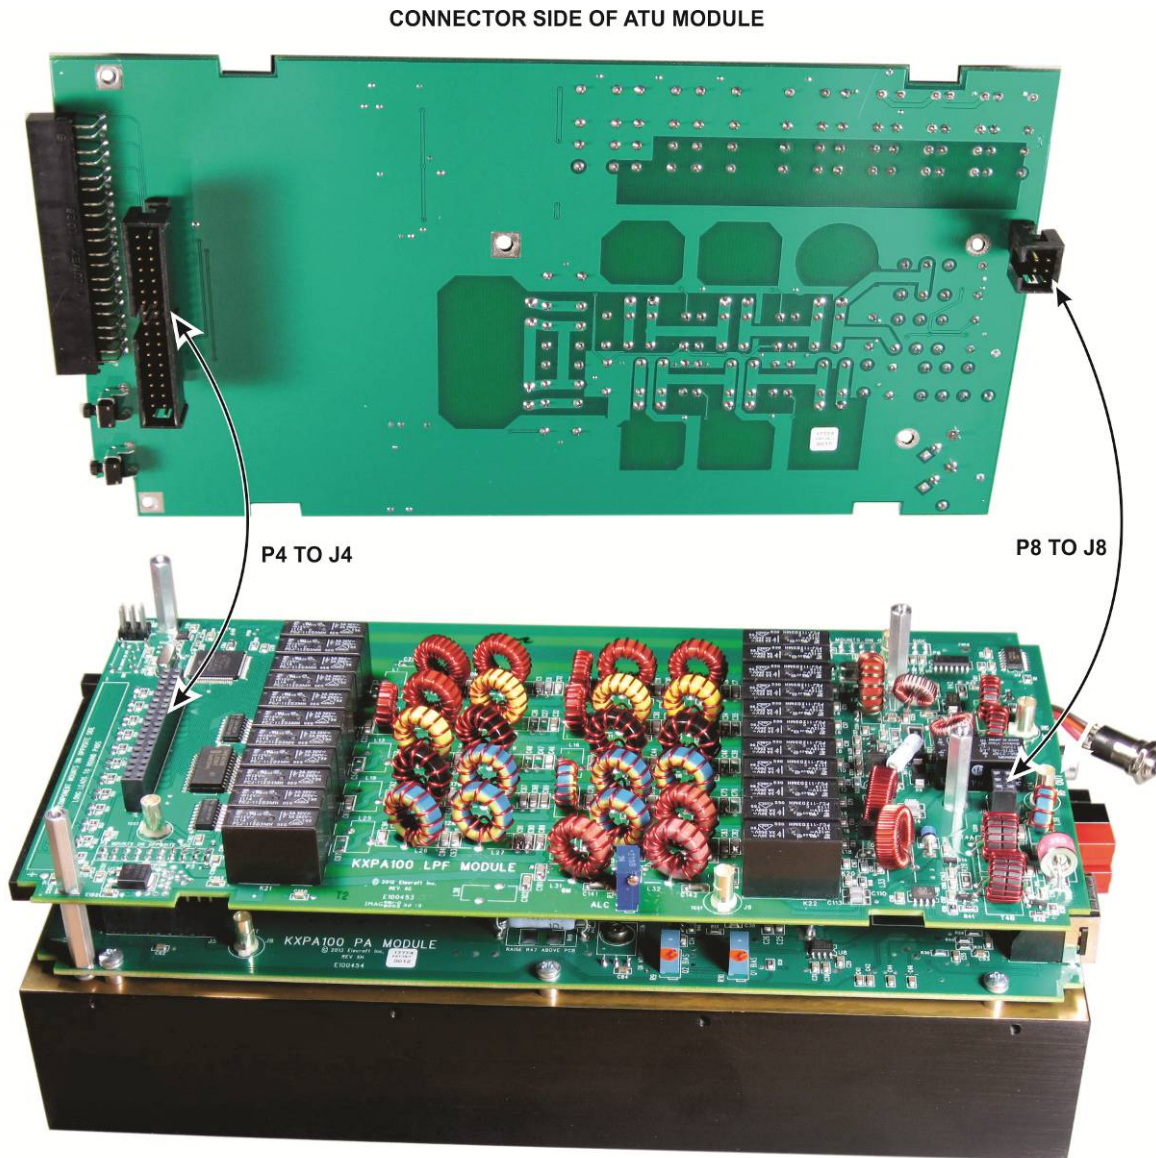

Figure 7. Mating the ATU Module with the LPF Module.
□ Taking ESD precautions, remove the ATU module pc board from its packaging. Place it on the standoffs you just installed so that the two plugs on the ATU module mate with their corresponding sockets on the LPF module as shown in Figure 7. Be sure that both connectors are properly aligned so all of their pins engage.